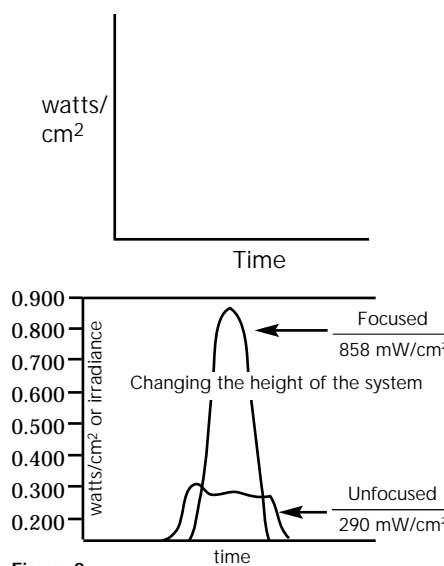

Figure 2
3. Change the focus on your systems: (See Figure 2)